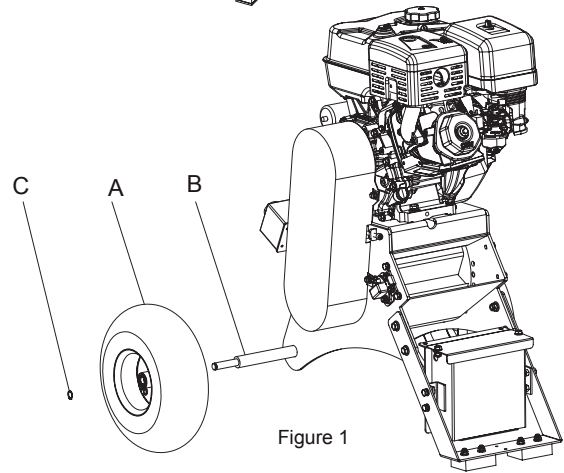

Figure 1
**INSTALL WHEELS - FIG 1**
1. Put the wheel (A) onto the axle (B), Make sure the wheel disc flat side faces the machine.
2. Fix the wheel to the axle with the external circlips (C).